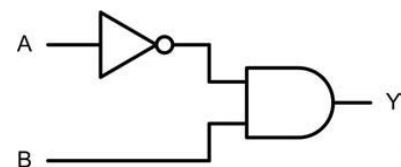

Fig.6.26. See Question 2
6.2. Draw the truth table for the logic gate arrangement shown in Fig. 6.26.